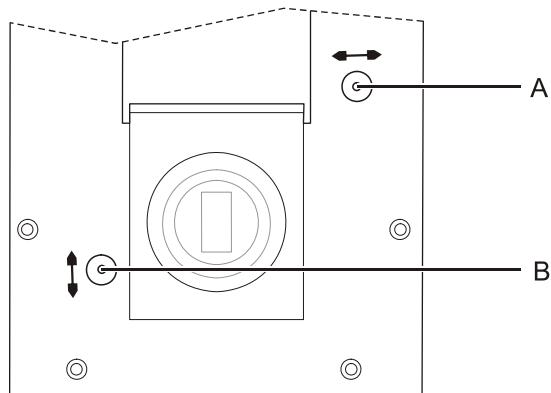

Figure 87: Horizontal and vertical optics adjustment
25. Turn the horizontal adjustment screw (see Figure 87, A), from right to left until the output energy is at its highest.